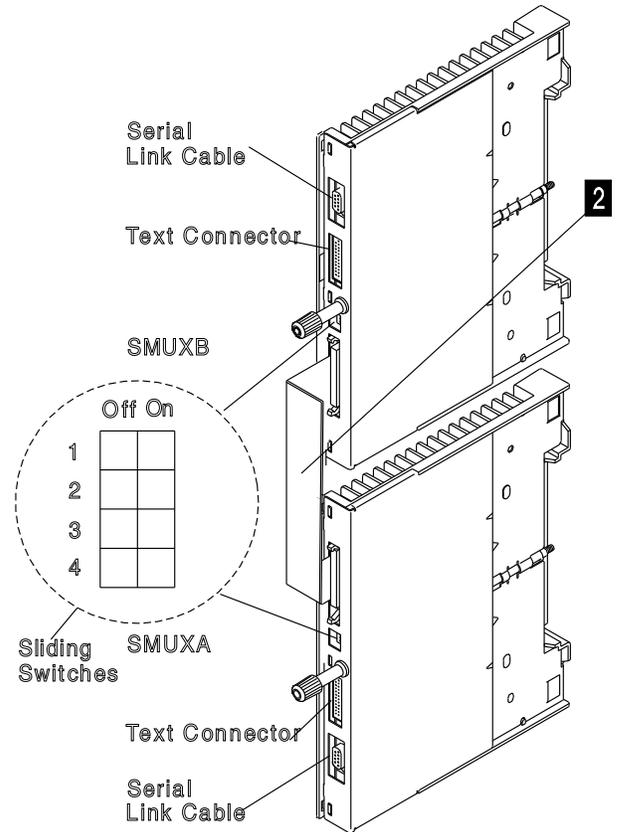

Figure 4-122. SMUX Link and Cable
7. Refer to Figure 4-122 .
10. Refer to Figure 4-122 on page 4-89.